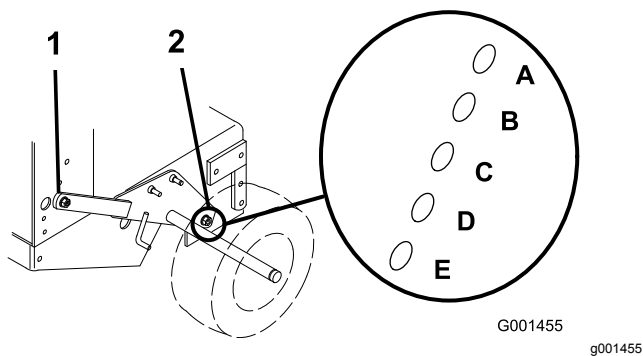

Figure 16
3. Loosen, but do not remove, the 2 axle-pivot bolts and 2 axle-adjustment bolts (Figure 16).
4. Place a jack under the rear center of the engine frame. Raise the rear end of the engine frame up enough to remove the front 2 axle-adjustment bolts (Figure 16).
5. Raise or lower the engine frame with the jack so that you can install the front 2 axle-adjustment bolts in the desired hole location (Figure 16).